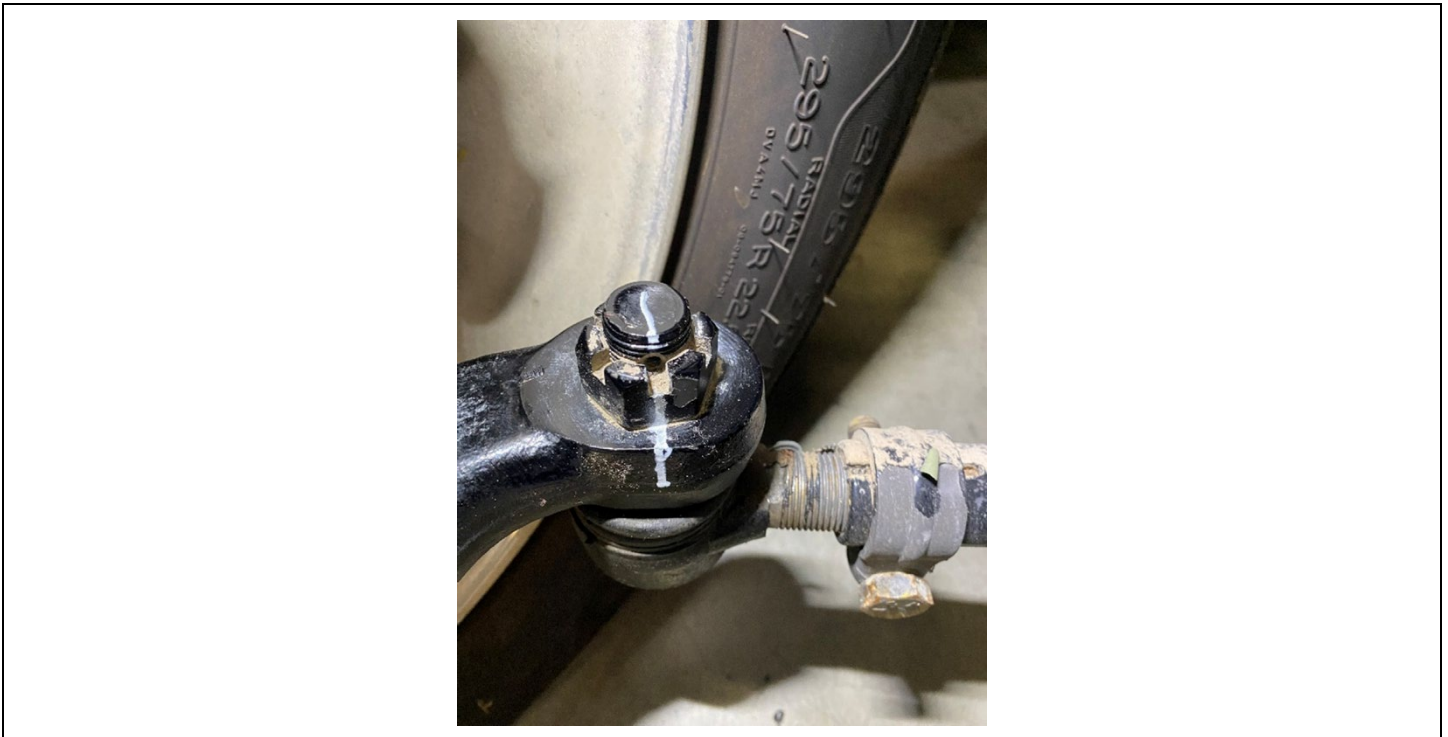

Fig. 4, Tie Rod Bolt, Castle Nut, and Tie Rod Arm Marked
8. Use a paint pen to mark the tie rod bolt, tie rod castle nut, and tie rod arm, as shown in Fig. 4.